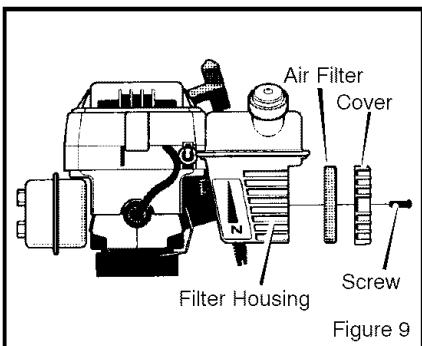

Figure 9
2. Remove the **screws** from the **air filter cover** (see Figure 9). Remove the **air filter cover** and the **air filter**.